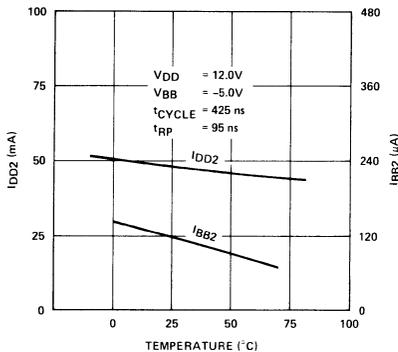

Figure 1.
1. For 128 cycle ( $\overline{RAS}$  before  $\overline{CAS}$ ) use  $I_{DD2}$  from Figures 1 and 2.
2. For 64 cycle ( $\overline{CAS}$  before  $\overline{RAS}$ ) multiply  $I_{DD2}$  determined in (1) by 0.96.
3. For 128 cycle ( $\overline{RAS}$  only) multiply  $I_{DD2}$  determined in (1) by 0.78.